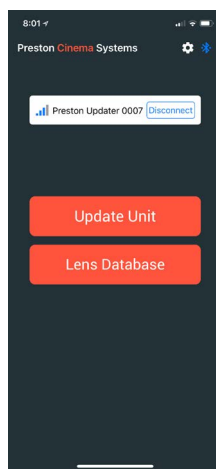

Fig. 1
- When the smartphone display shows that it is connected to the FI+Z unit, select Update Unit (*above left, fig 1*).